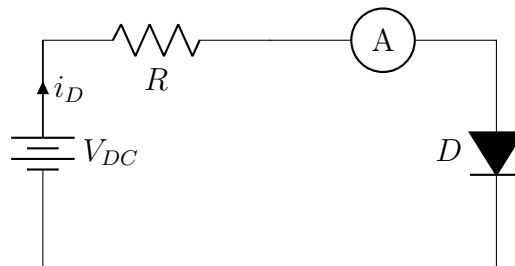

Figure 1: PN-Junction Diode Test Circuit
1. Construct the circuit shown in Fig. 1 on a breadboard.